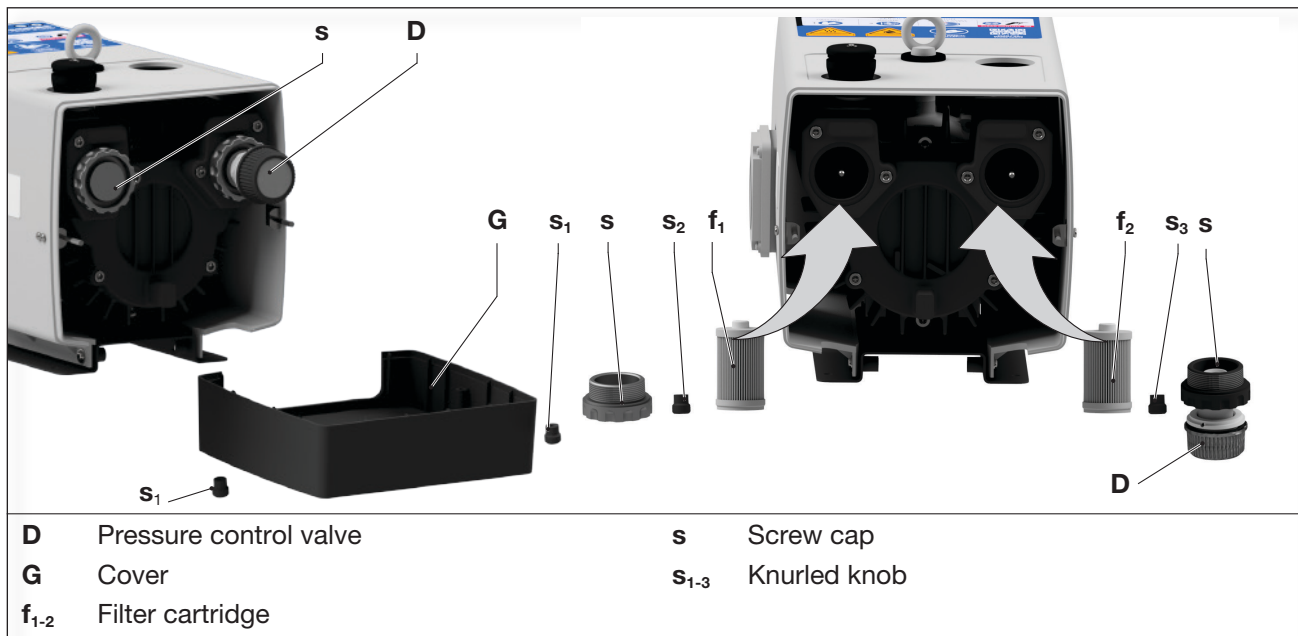

Fig. 4 Replacement of air filter
Clean by blowing off or replace the filter cartridges for inlet air (Fig. 4/f1) and outlet air (Fig. 4/f2 → Accessories) every month or, depending on the pollution, more often. Despite of cleaning of the filters, their separation efficiency will continue to deteriorate. Therefore the filters should be replaced every six months.
- b) Remove the cover (Fig. 4/G) after releasing of the knurled knobs (Fig. 4/s1).
- c) Release and remove the screw cap and the knurled knob on the inlet side (Fig. 4/s) (Fig. 4/s2).
- d) Release and remove the screw cap on the outlet side (Fig. 4/s) with pressure control valve (Fig. 4/D) and the knurled knob (Fig. 4/s3).
- e) Take out and clean or replace the filter cartridges for inlet air (Fig. 4/f1) and outlet air (Fig. 4/f2) .
- f) Insert the filter cartridge (Fig. 4/f1) on the inlet side and fasten it with the knurled knob (Fig. 4/s2) and the screw cap (Fig. 4/s) . Tighten the knurled knob and the screw cap by hand.
- g) Insert the filter cartridge (Fig. 4/f2) on the outlet side and fasten it with the knurled knob (Fig. 4/s2) and screw cap (Fig. 4/s) with pressure control valve . Tighten the knurled knob and the screw cap by hand.
- h) Mount the cover (Fig. 4/G) with the knurled knobs (Fig. 4/s1). Tighten the knurled knobs by hand.
- Remove the cover (Fig. 4/G) after releasing of the knurled knobs (Fig. 4/s1).
- Mount the cover (Abb. 4/G) with the knurled knobs (Fig. 4/s1). Tighten the knurled knobs by hand.